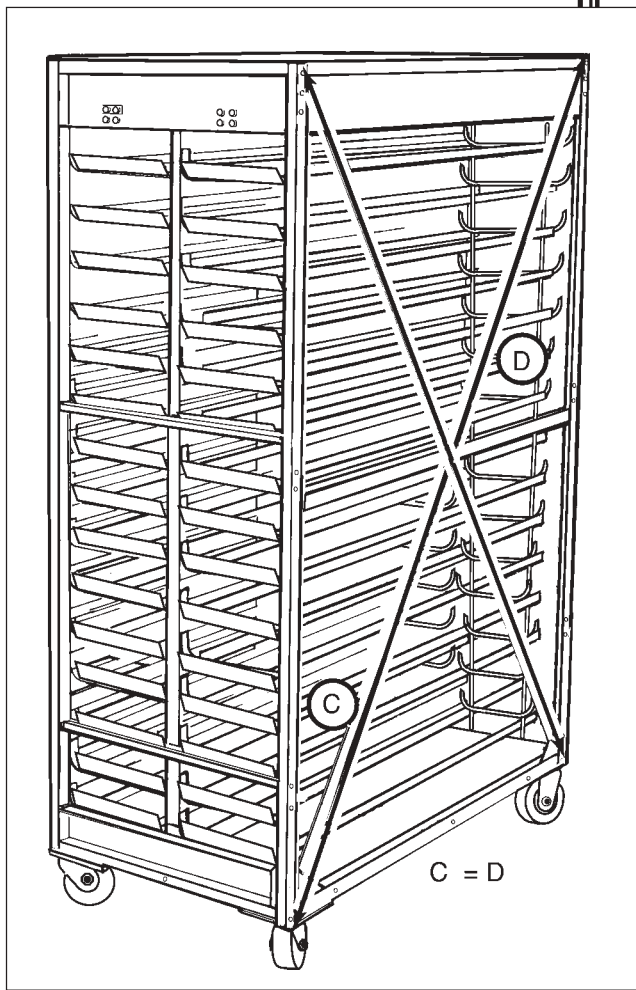

Figure 26: Adjusting Frame Opposing Side
Step 22: On the opposing side of the castors that were tightened; adjust the frame left or right until the incubator rack is squared as in Figure 26.